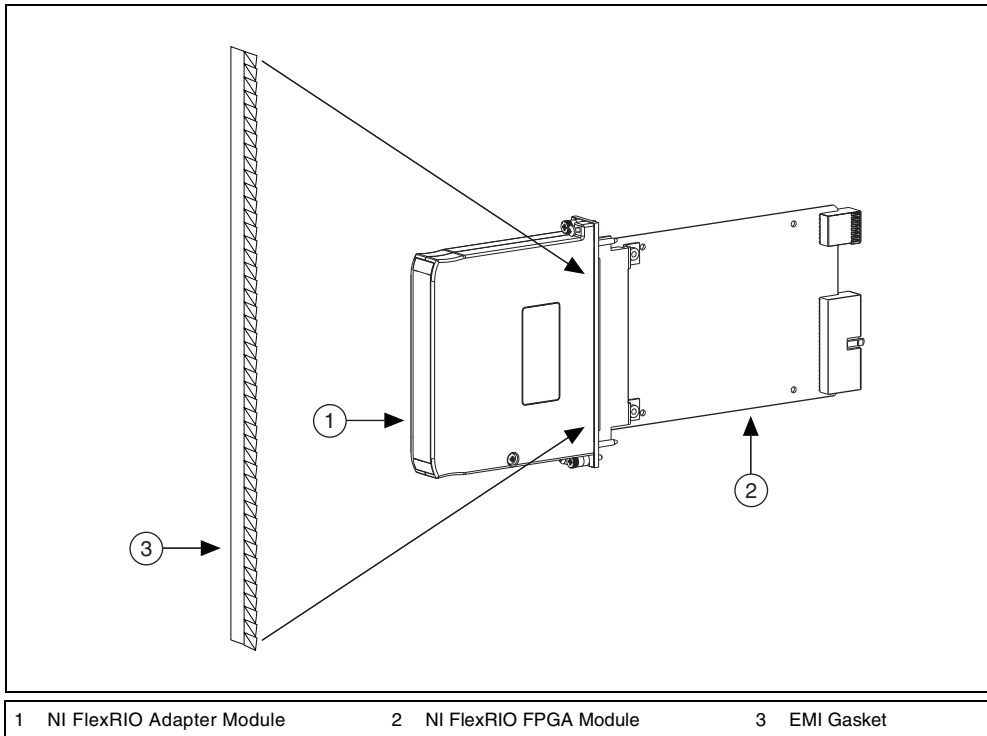

Figure 2. EMI Gasket Placement on the NI FlexRIO System
Caution To avoid incorrectly positioning the EMI gasket, carefully review the following steps and Figures 2 through 5 before attaching the EMI gasket.
- b. Position the EMI gasket vertically at the rear of the NI FlexRIO adapter module, near where it connects with the NI FlexRIO FPGA module, as shown in Figure 2.